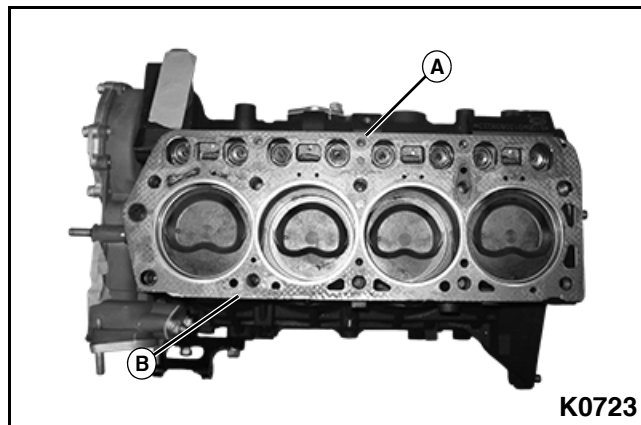

Figure 3-124
1. Install new head gasket (A) to a clean cylinder block deck (B). See Figure 3-124.